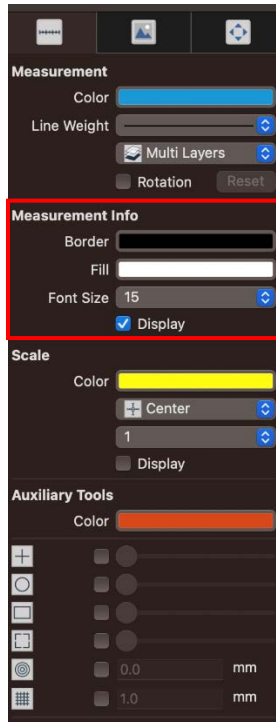

Figure 5-31 Measurement information block
- 2. Measurement information block, as shown in Figure 5-31: